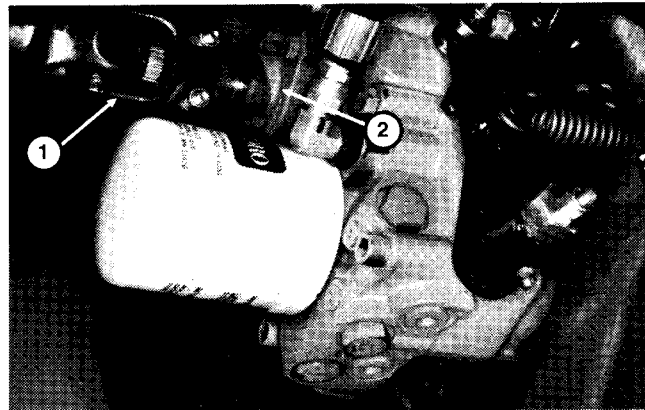

Figure 37
2. Remove the two (2) cap screws retaining the charge pump cover. Remove the charge pump (Fig. 37, 38).